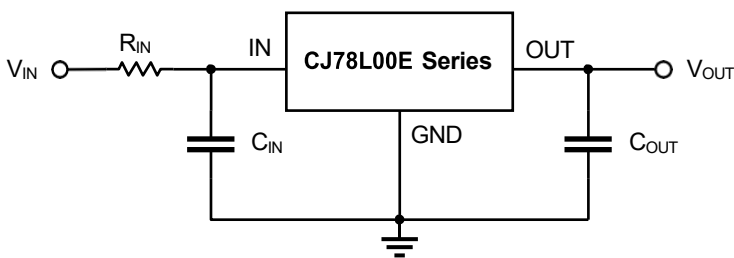

Figure 8-3. Resistance is used at IN
2. Place a resistor with appropriate resistance in series before the IN of the voltage regulator, which can help the voltage regulator share part of the energy in case of surge. The resistance value of the resistance should not be too large. The specific resistance value depends on the application of the circuit. Generally, the resistance value of this resistance does not exceed 20Ω . As shown in Figure 8-3.
The CJ78L00E series can obtain better transient response with the help of output capacitance. However, if the output capacitor is relatively large, the surge current generated by the charging of the output capacitor will also be large at the moment of power on of the regulator, and the large surge current passing through the regulator may damage the internal circuit. When the output capacitance is large, adopting the circuit design shown in Figure 8-3 will reduce the possibility of damage to the device due to large surge current to a certain extent. It is recommended that the selection of output capacitor should not exceed $20\mu\text{F}$. **If the selection of output capacitor exceeds $20\mu\text{F}$, it is recommended to adopt the circuit design in Figure 8-3 to reduce the possibility of accidental failure of the device due to large surge current during power on.**